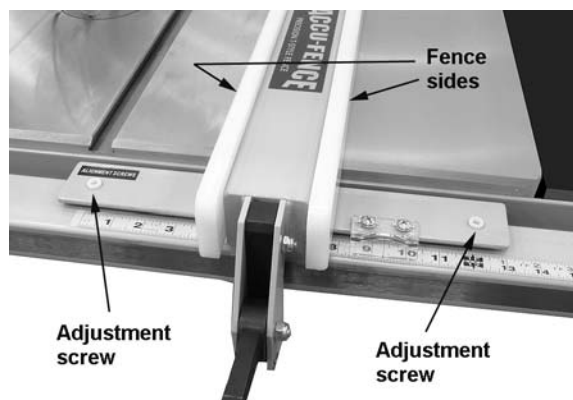

Figure 17
4. Raise or lower two nylon adjustment screws (Figure 17) *the same number of turns* until the space between the bottom of the fence and the table is the same. Care must be taken to raise or lower the fence on each side equally or the fence sides may not be 90° to the table after the height adjustment is performed.
3. If adjustment is necessary, unlock the fence, and turn one of the two nylon adjustment screws (Figure 17) until fence is 90° to table.